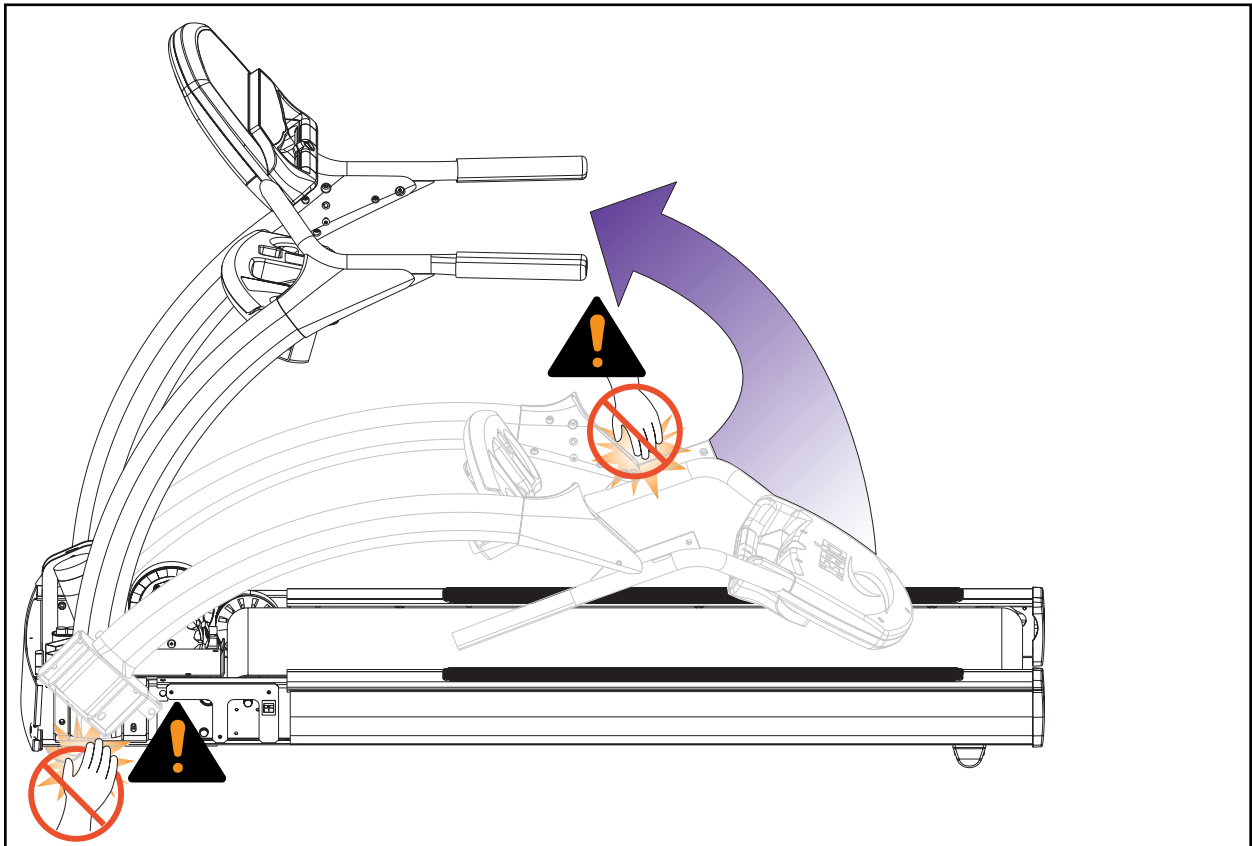

Figure 4
! CAUTION: *Do not pinch your hands or other body parts while pivoting the treadmill. See Figure 4.*
- C.** Raise the console and uprights into position (they will pivot into place). **NOTE:** Confirm that no cables are pinched while raising the unit. See Figure 4.